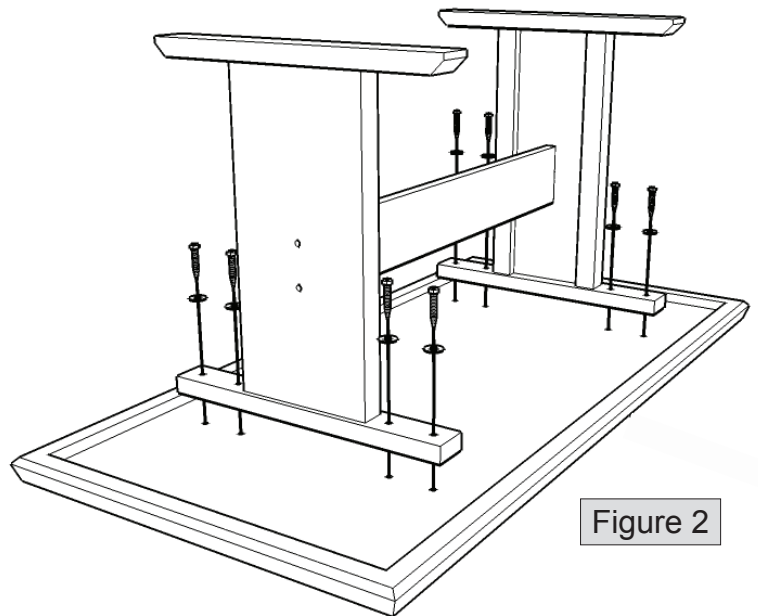

Figure 2
4. Place leg frame assembly on tabletop as shown in figure 2. Align holes and attach using 2" hex screws and washers into pre-drilled holes. Tighten securely using care not to strip.